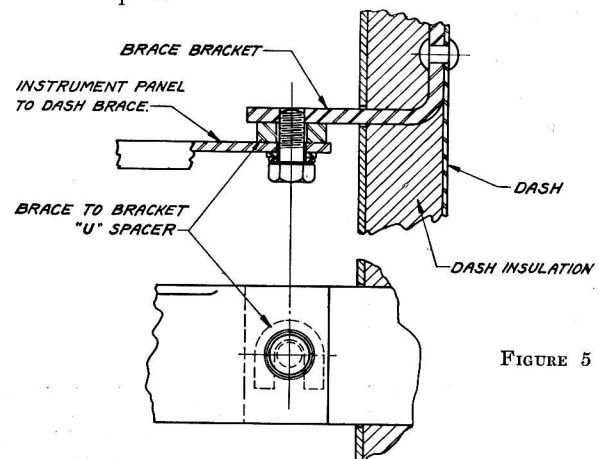

FIGURE 5
4. Loosen the bolt on the right hand bracket at the dash to which is attached the instrument board reinforcing brace. Slip the "U" shim (furnished in the accessory kit) between the bracket and the brace and then tighten the bolt. (See Figure 5).